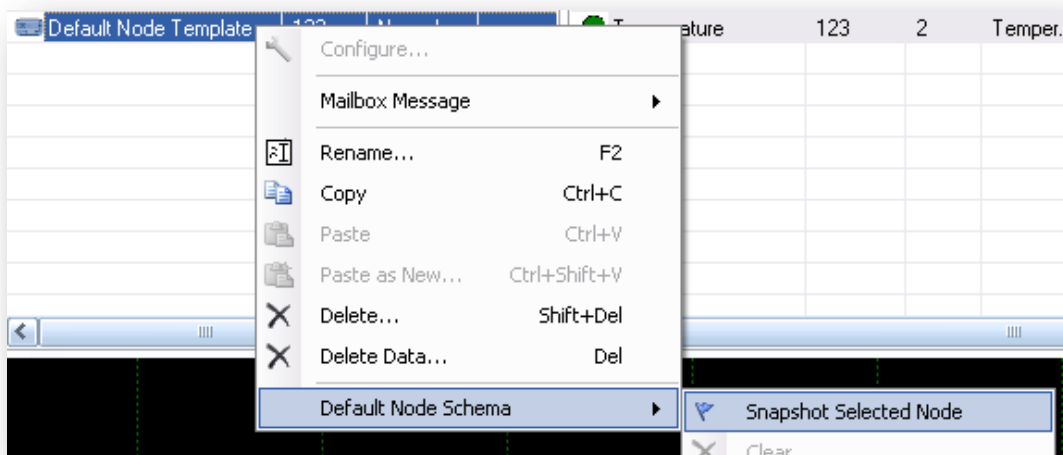

Figure 6-5 - Set as default
5. Right-click on the node in the node list and choose *Default Node Schema* → *Snapshot Selected Node* (see FIGURE 6-5)